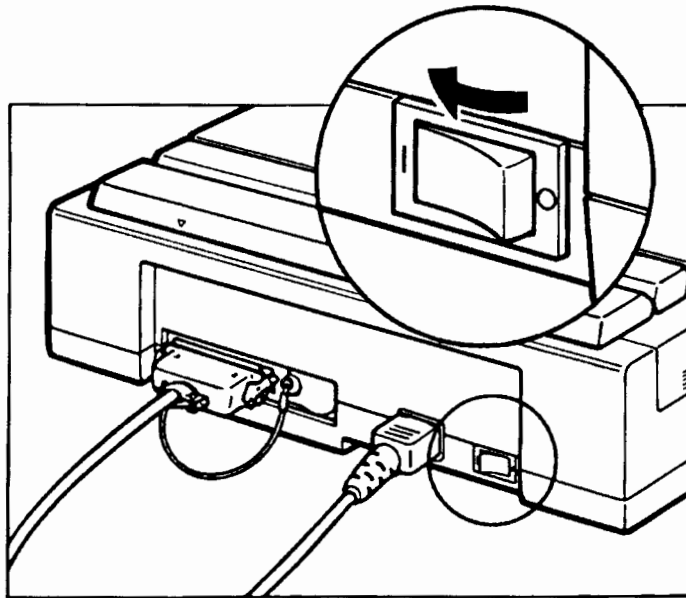

Figure 3-12. Turning On the Scanner
3. Turn on the scanner power switch. See figure 3-12. The power indicator on the front of the scanner should be lit.